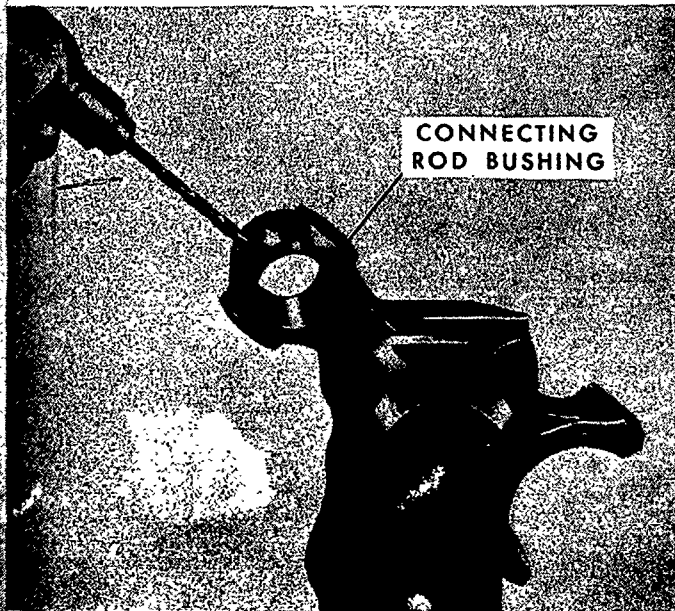

Figure 51
3. Using the hole in the top of the connecting rod as a guide, drill a $\frac{1}{4}$ in. (6.350 mm.) diameter hole in the bushing, Figure 51.